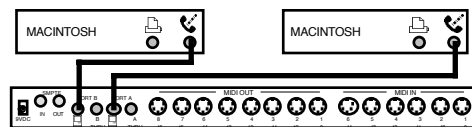

**Figure 3.4: Dual Port Connection**
Figure 3.4 illustrates a common dual port connection. Connect both Macintosh serial ports to the Studio 4, and attach any
**NOTE:** *In a two cable system, such as shown in Figure 3.4, use the Network Routing window to distribute data between ports (see Chapter 6).*